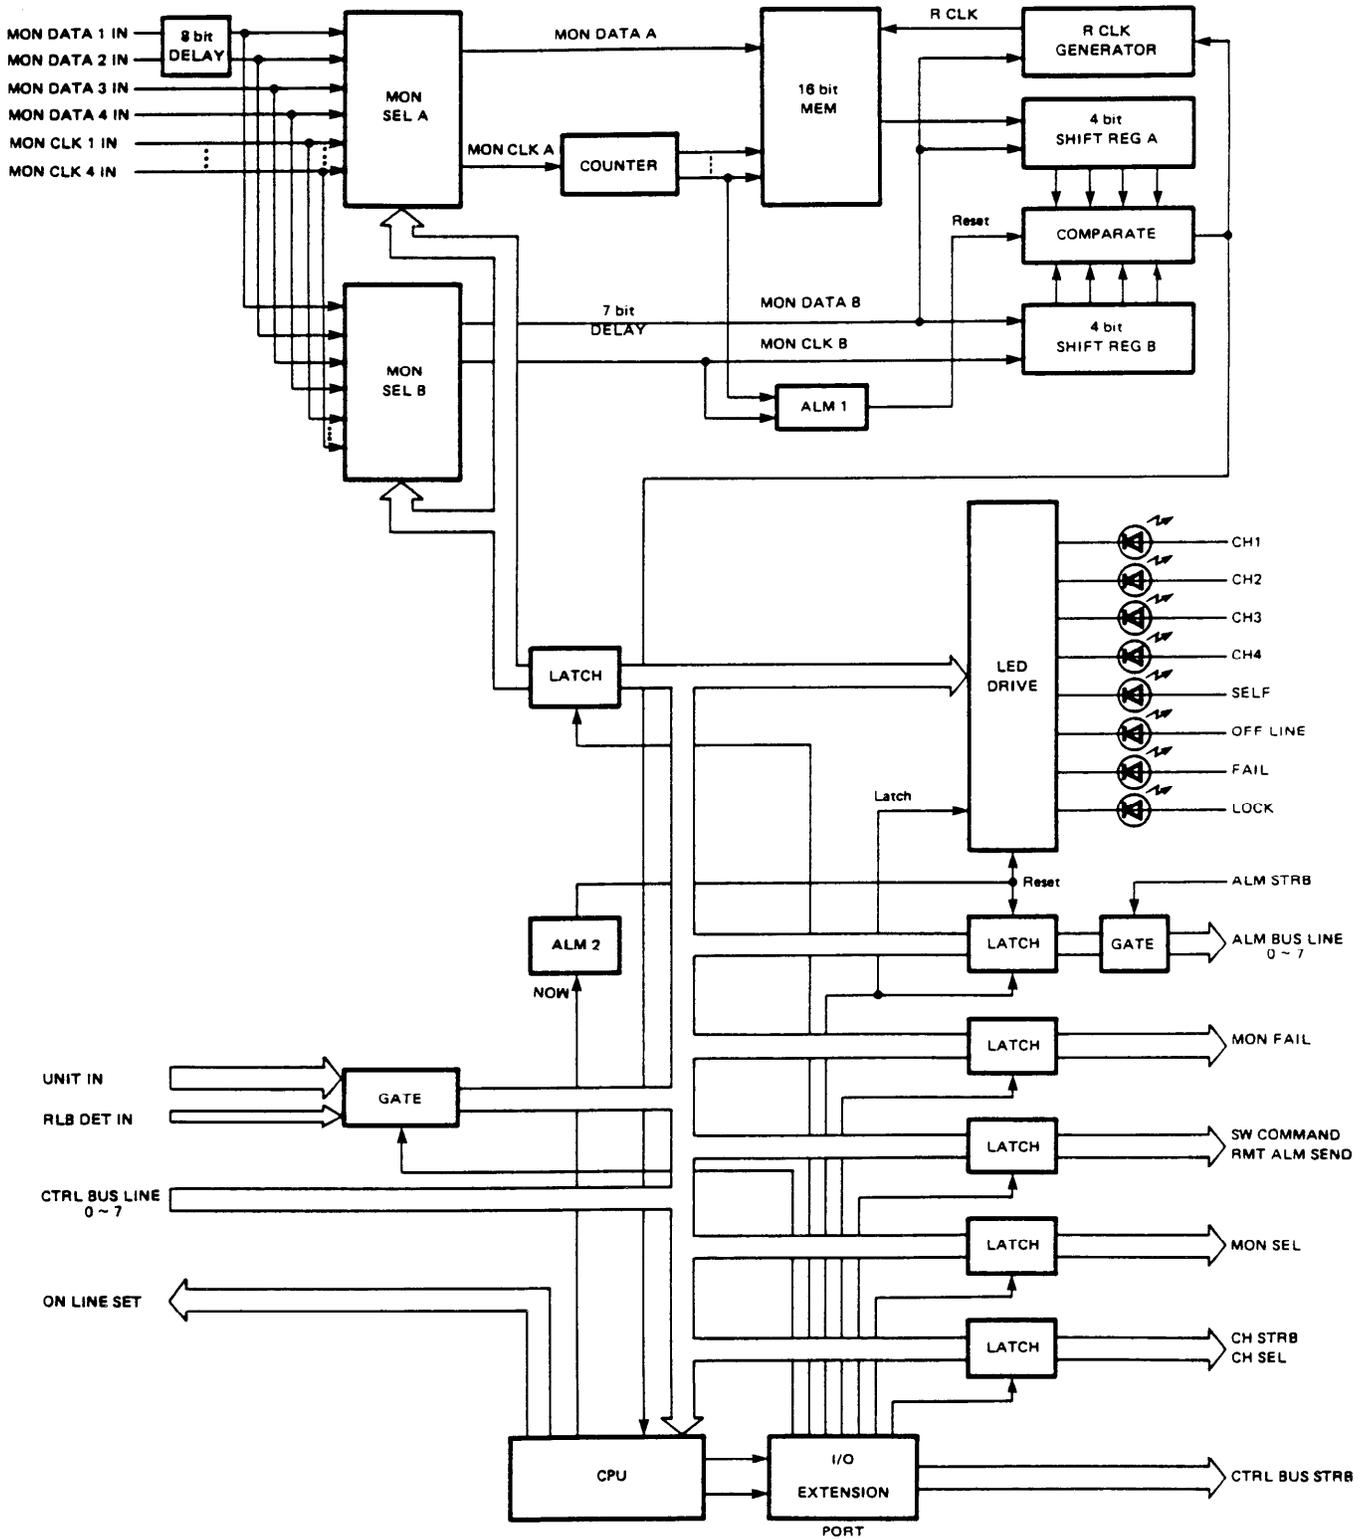

Figure 3-1 Block Diagram of CTRL Unit
3.01 The CPU of the CTRL unit facilitates centralized control for switching the system and monitoring the multiplex functions. Figure 3-1 shows block diagram of the CTRL unit.
3.03 According to the checking items, MON DATA 1-4 and MON CLK 1-4 incoming to the CTRL unit are selected by MON IN SEL A and MON IN SEL B selectors. Output data from MON IN SEL B (shown as MON data B in Figure 3-1) and is sent to 4 bit shift register B. Output data from MON IN SEL A (shown as MON data A in Figure 3-1) is stored in Buffer memory (BUFF MEM) and is read out by R CLK, which is synchronized with MON CLK B. At this time, delaying time can be varied from 1 to 16 bit. Data output from BUFF MEM is sent to 4 bit shift register A. Bit comparison is performed between 4 bit shift register A and B and its result is sent to R CLK generator and the CPU. If both data are not in concert with, timing of the data stored in BUFF MEM is delayed (i.e. changes delay bit of DATA A). This operation will be continued until those data will be concerted.